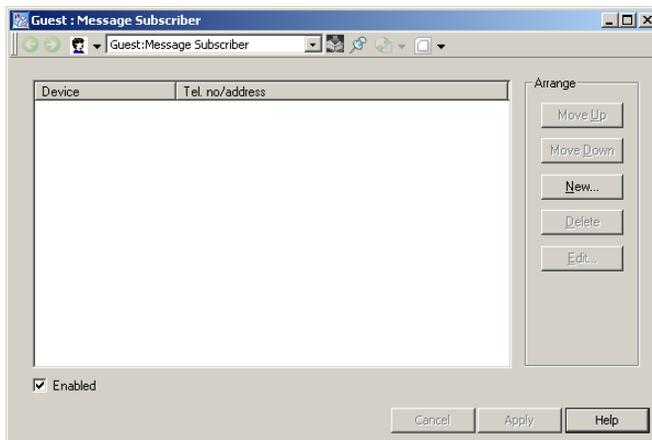

Figure 101. Message Subscriber
2. Right-click on the user and select **Message Subscriber** from the context menu that appears. This opens the Message Subscriber shown in Figure 101.